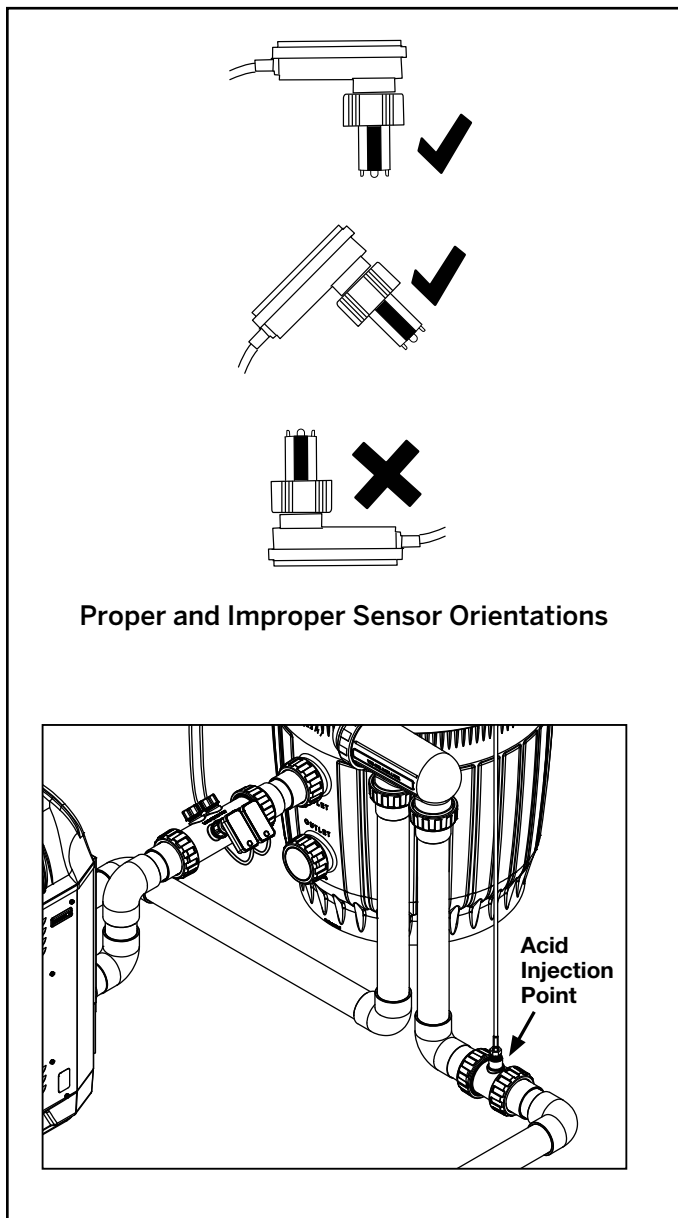

Figure 11. pH and ORP Sensor Installation
1. Install the sensor chamber horizontally, where possible after the filter and before the chlorinator cell (see Figure 11).
The Ideal location for a pH or ORP probe is on a horizontal pipe run, with the probes facing DOWN or on a 45° Angle (see figure 11).
The amount of chlorine needing to be produced is dictated by the pH level in the pool. As the pH level rises, the amount of chlorine must be increased to compensate, see Figure 11.